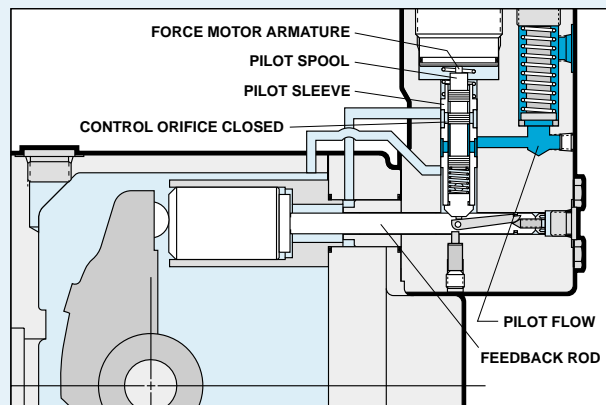

Figure 1: Cradle biased off-stroke
**FIGURE 1:** The mechanical position feedback design consists of a feedback rod (attached to the control piston) and a pilot sleeve which rides on a feedback cam in the rod. A hole in the sleeve, in conjunction with the land on the spool, forms a control orifice. When no flow is required this orifice is closed.